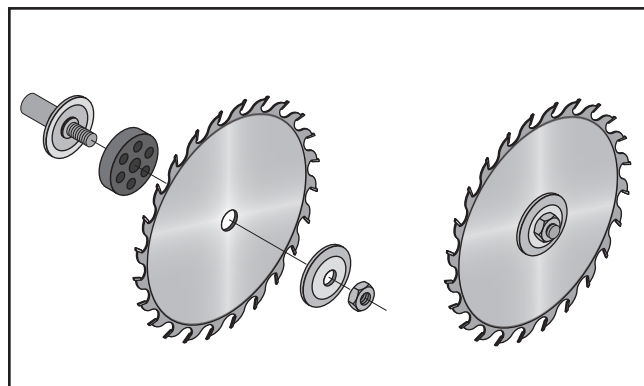

Figure 51. Main blade installation and order of assembly.
7. Install the blade as shown in **Figure 51**, making sure the teeth face toward the scoring blade. DO NOT overtighten the arbor nut.